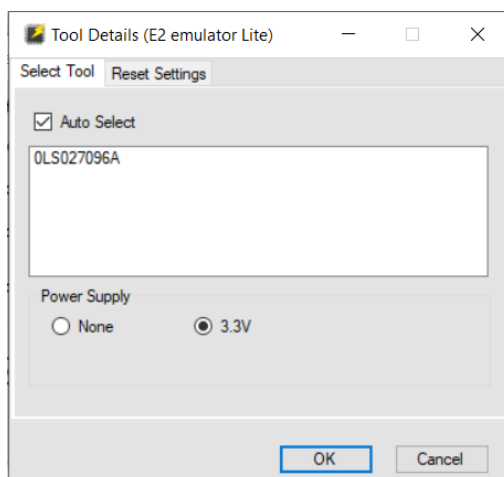

Figure 6. Power Supply Connection Window
8. Click *Tool Details* and select “3.3V” Power Supply, then click OK. See Figure 6.